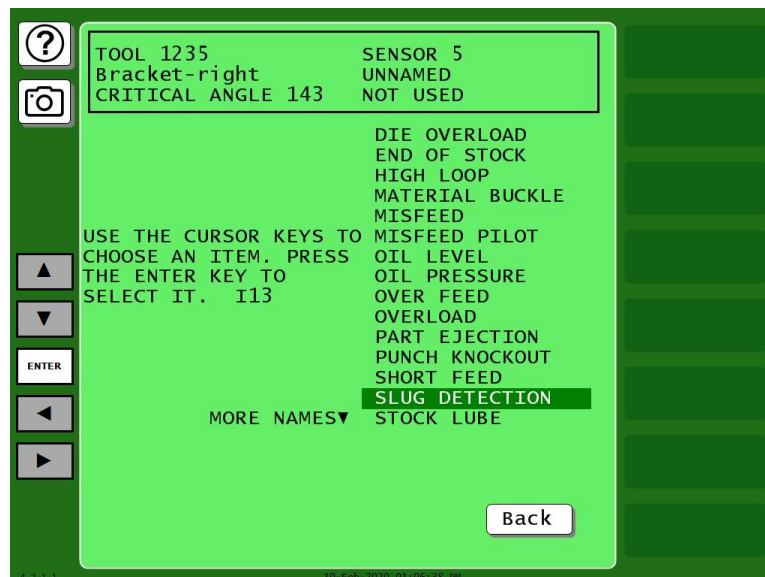

Figure 5-40. Sensor Names Screen with Slug Detection Function Highlighted
- Select a function for the sensor. (“Slug Detection” is used as an example in Figure 5-40.). The Sensor Type screen displays, Figure 5-41.